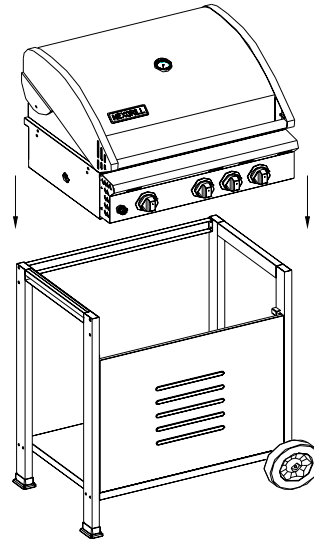

Figure 7
1. Remove grill head unit from carton, then place onto cart from above as shown in diagram. (Fig.7) **Caution!! Head unit is heavy. To avoid injury, we strongly recommend 2 or more persons for this step.**